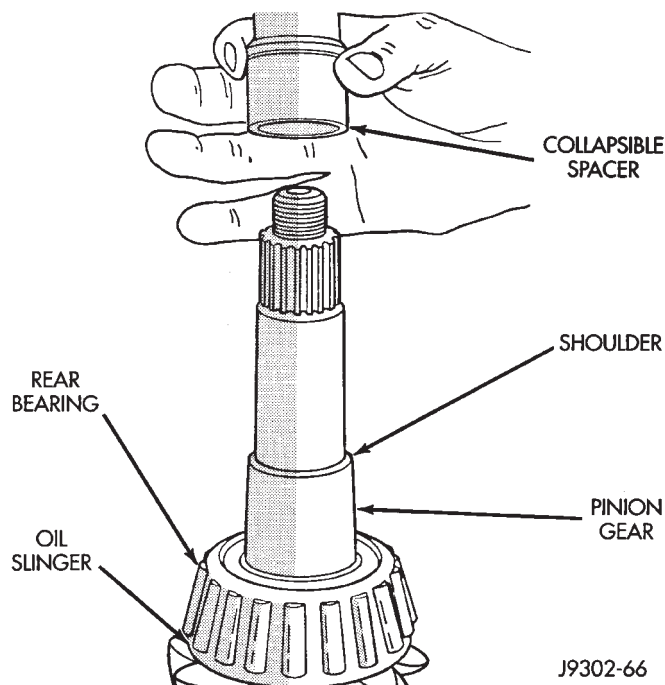
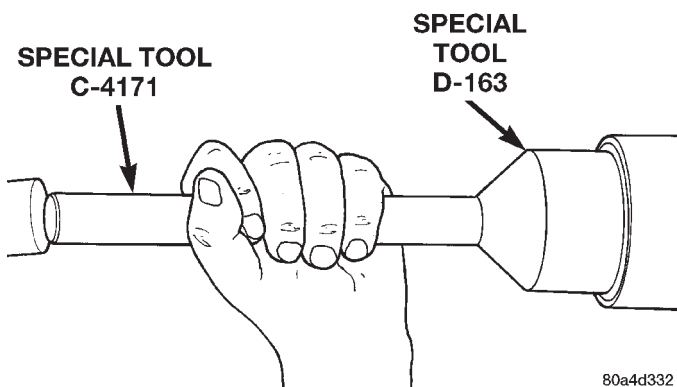
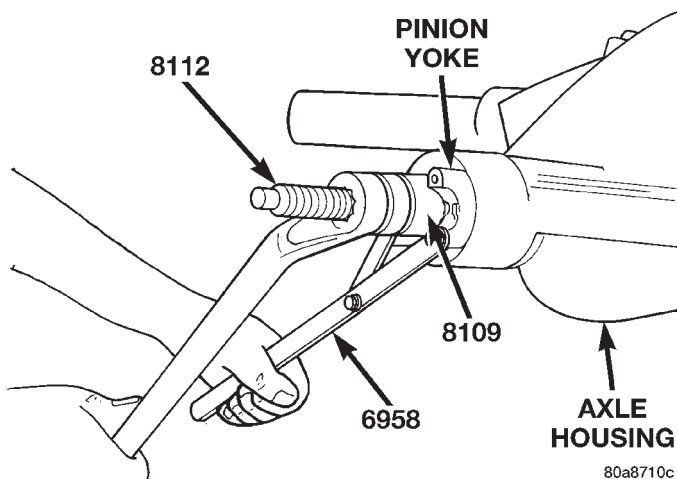

Fig. 12 Collapsible Preload Spacer
Fig. 13 Pinion Seal Installation
Fig. 14 Pinion Yoke Installation
- (1) Install a new collapsible preload spacer on pinion shaft (Fig. 12).
- (2) If pinion gear was removed, install pinion gear in housing.
- (3) Install pinion front bearing, if necessary.
- (4) Apply a light coating of gear lubricant on the lip of pinion seal. Install seal with Installer D-163 and Handle C-4171 (Fig. 13).
- (5) Inspect pinion seal excluder. Replace if necessary, and install pinion seal excluder on pinion yoke.
- (6) Install yoke with Screw 8112, Cup 8109, and Holder 6958 (Fig. 14).
- (7) If the original pinion bearings are being used, install differential assembly and axle shafts, if necessary.